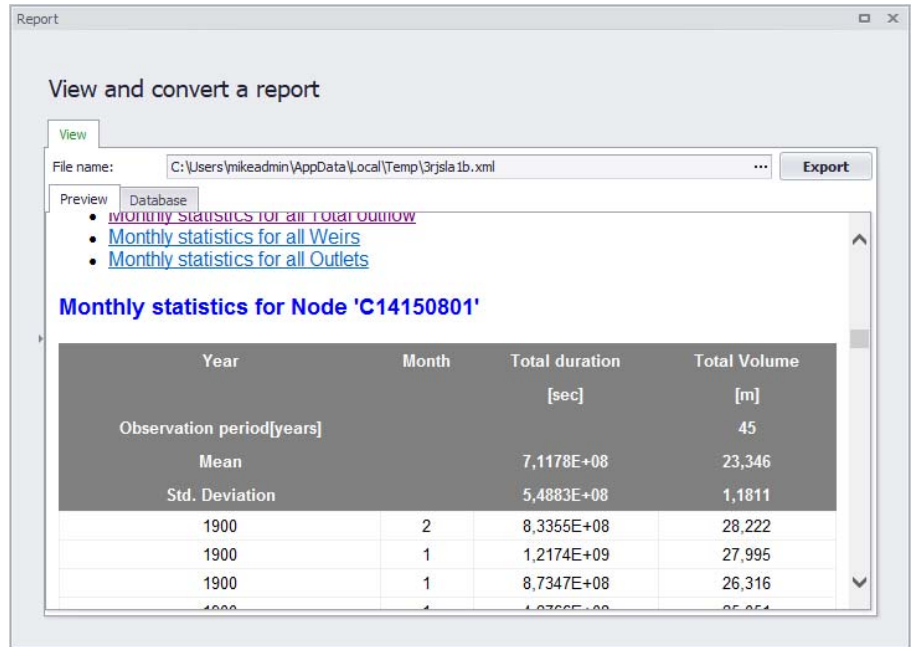

Figure 20.70 Example LTS chronological statistics report
- Click on the ‘OK’ button to create a new LTS chronological statistics report. An example is shown in Figure 20.70. Note that it is not possible to customize data series labels (i.e. Edit alias) for LTS reports, nor is it possible to edit existing LTS reports from the dialog.